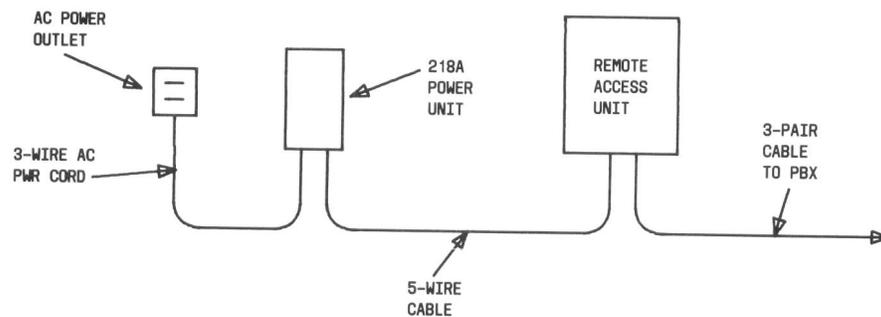

Fig. 20—Remote Access Unit—Typical Installation
4.05 A typical installation for the RAU is shown in Fig. 20.